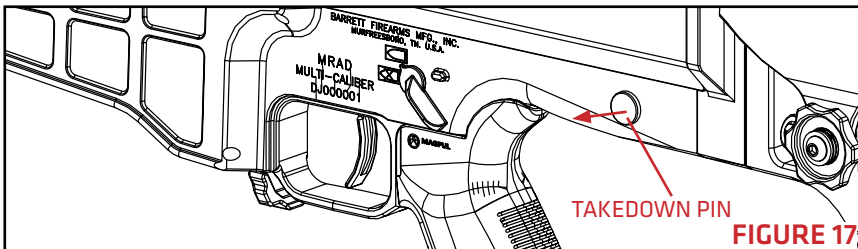

FIGURE 17
2. Locate the takedown pin of the lower receiver just behind the pistol grip (**FIGURE 17**). Push the takedown pin from the ejection port side of the rifle.